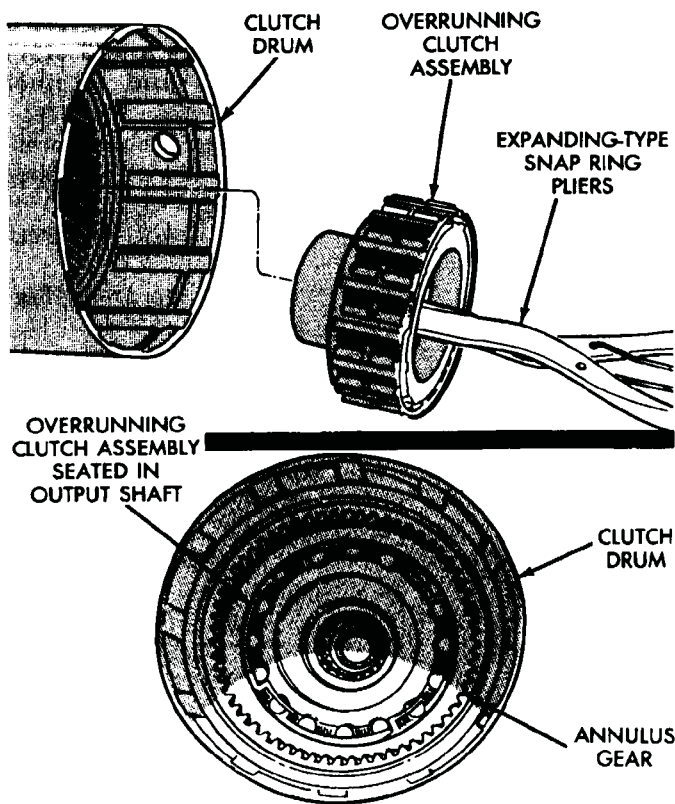

Fig. 50 Overrunning Clutch Installation
(11) Install overrunning clutch (Fig. 50). Insert snap ring pliers in hub splines. Expand pliers to grip hub. Then install assembly with counterclockwise, twisting motion.